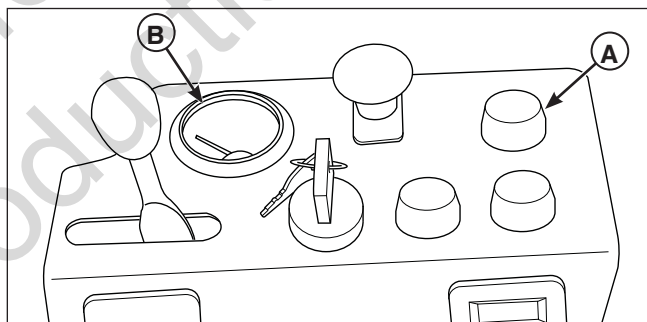

Figure 59. Deck Shut Down Module
- Immediately check your dash panel to see if the oil pressure indicator lamp (A, Figure 59) is lit or the water temperature gauge (B) is reading a high temperature.